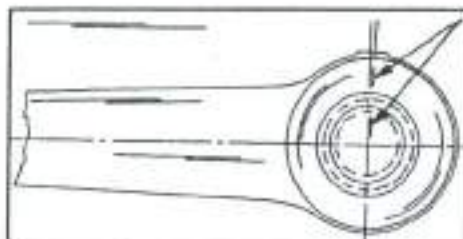

Fig. 6.2 - Drop arm and steering shaft are marked as shown and must be fitted accordingly.
- Push the steering drop arm over the steering shaft. Drop arm and steering shafts are marked. The marks must be opposite each other as shown in Fig. 6.2 after the arm has been fitted. Fit the nut and tighten to 20 - 22 kgm (144 - 158 ft.lb.).